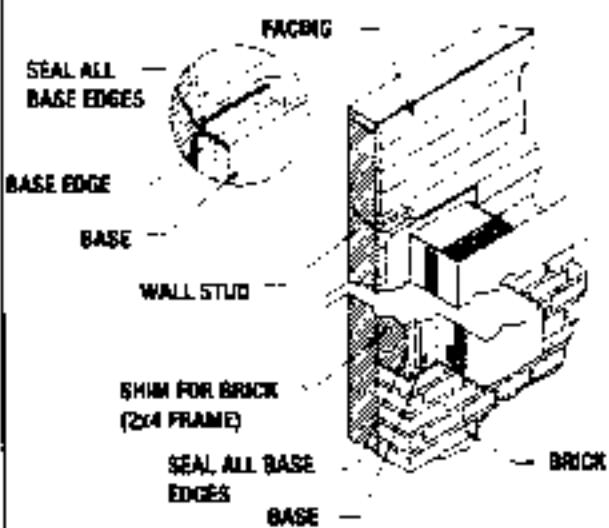

FIGURE 4-5
- 8) Seal the outside corners of the termination base and the junction between the termination base and venting with caulkng material. See figure 4-5.